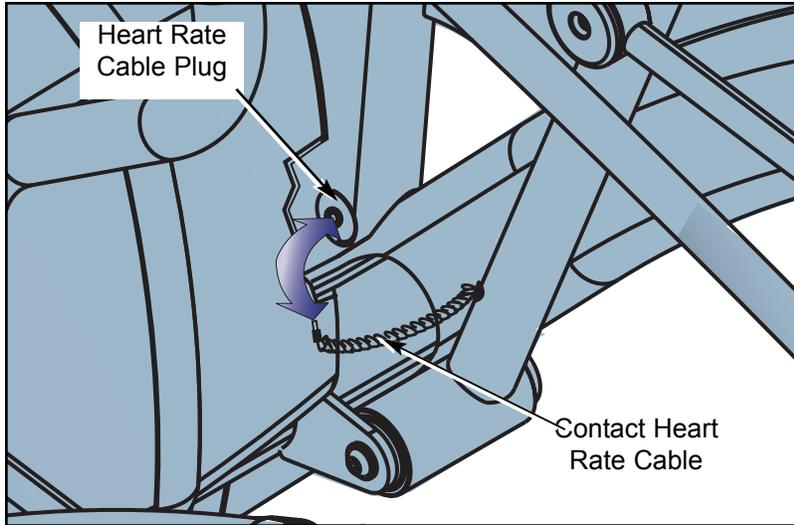
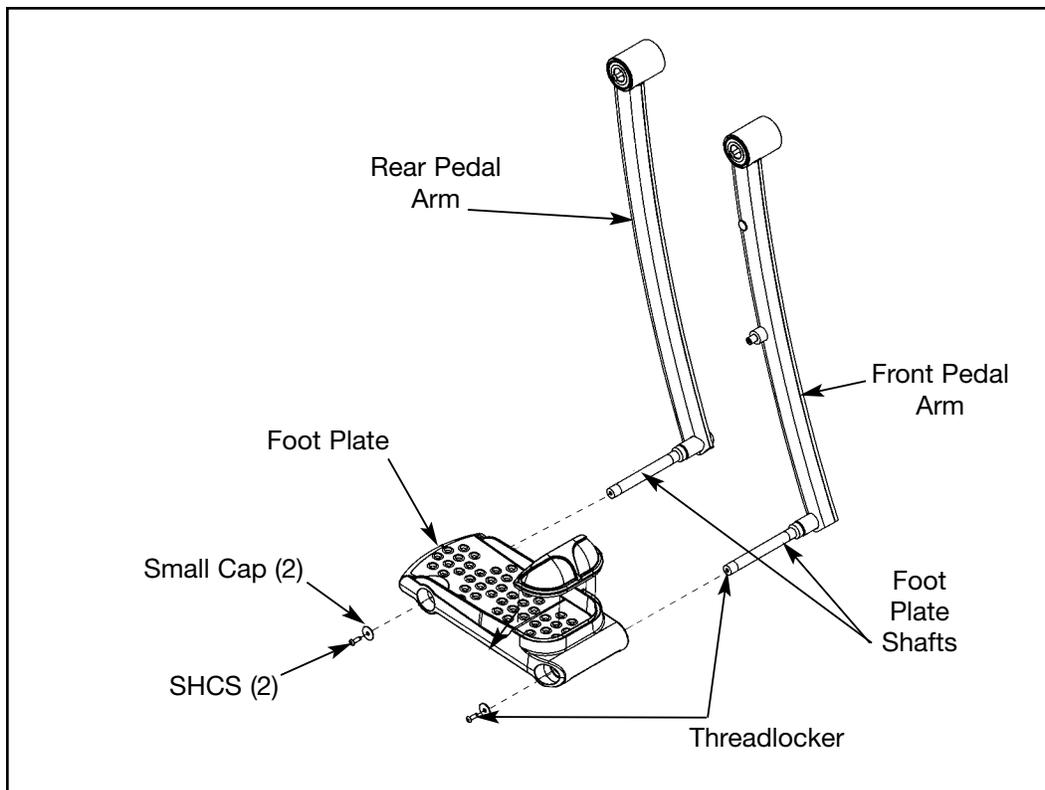

Figure 23
Figure 25
- A. Turn the main power switch above the power inlet to the off (O) position.
- A. Unplug the contact heart rate cable from the main frame. See Figure 23.
- A. Plug the contact heart rate cable into the plug in the main frame. See Figure 23.
- A. Using a Phillips head screwdriver or 3/16" Allen wrench, remove each SHCS securing the (appropriate) cap. See Figure 25.
- D. Using a Phillips head screwdriver or 3/16" Allen wrench, attach cap with the (appropriate) SHCS securing the cap. See Figure 25. **NOTE:** SHCS must be tightened to a minimum of 100 inch-pounds.